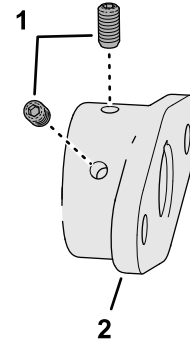

Figure 15
1. Thread the 2 set screws into the new hub (Figure 15).
2. Assemble the coupler that you removed in Removing the Coupler \(page 7\) to the new hub with the 2 bolts (8 x 50 mm), 2 washers, and 2 locknuts as shown in Figure 15.